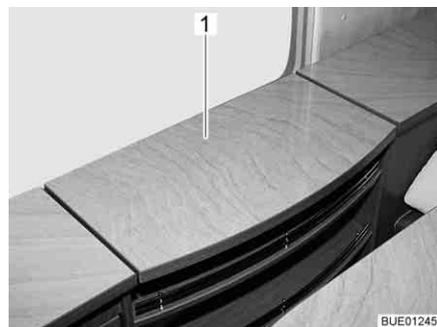
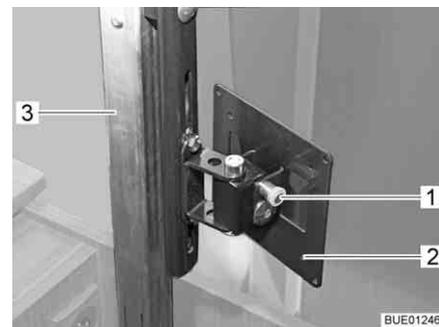

Fig. 47 TV compartment
Fig. 48 Lifting mechanism
- Lightly depress the cover (Fig. 47,1) of the TV compartment in the centre. The extension column (Fig. 48,3) is released and starts to move upwards.
- Pull the release knob (Fig. 48,1) and swivel holder (Fig. 48,2) with flat screen to the desired position.
- Turn the flat screen back into the original position until holder (Fig. 48,2) engages in the lock.
- Press the middle of the cover (Fig. 47,1) downwards against the resistance of the extension column (Fig. 48,3) until the locking mechanism engages.